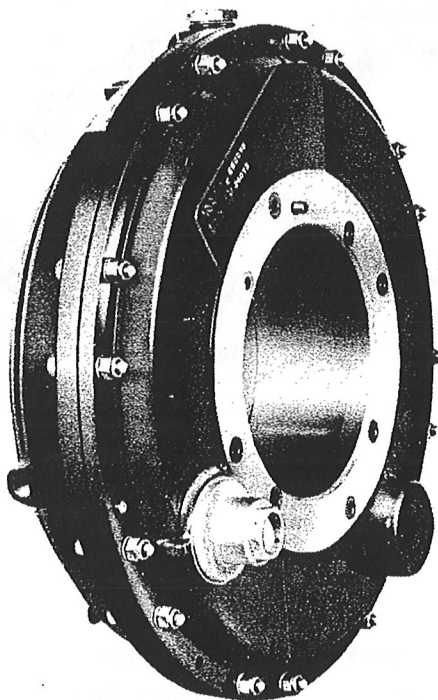
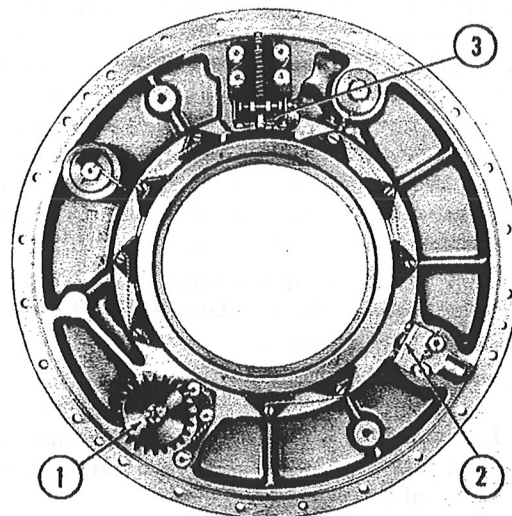

Figure 6—Regulator Assembly
Figure 7—Regulator Housing and Sub Assemblies
(1) GENERAL. — The regulator assembly is a doughnut-shaped unit which serves as a reservoir for the hydraulic fluid and contains a pump, pressure control valve, governor, filter screen and a manual rpm control mechanism. This unit is composed of a cover and a housing. (See figure 6.) The housing is a machined, light-weight alloy casting on which are mounted the hydraulic fluid pump, pressure control valve, governor and filter screen. (See figure 7.) A removable plug is threaded into the cover to permit the addition and removal of fluid and to permit access to the governor adjusting screw. The regulator assembly is mounted to the rear of the hub by means of a regulator nut having a left-hand thread. The unit provides controlled hydraulic pressure to the torque units located in each hub socket.